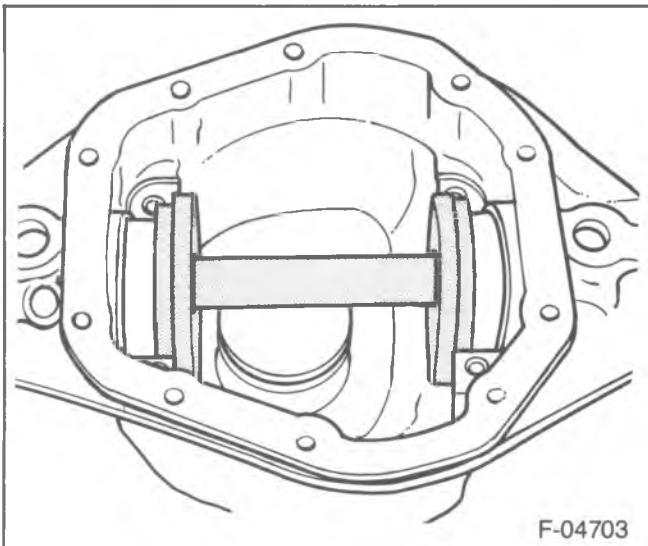

Figure 105—Arbor and Discs
4. Install the arbor and discs into the axle housing (figure 105).